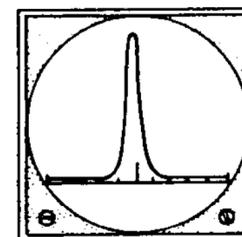

Figure 4
- () Turn the slug of coil L2 clockwise until the IF signal pip is centered on the screen base line. If the top of the pip is off the screen at the top of the CRT, turn the PIP GAIN control counter-clockwise until the complete pip pattern is visible. See Figure 4.